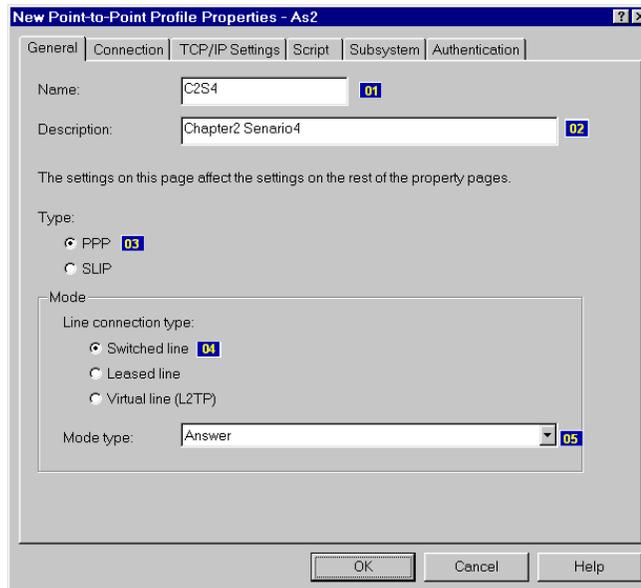
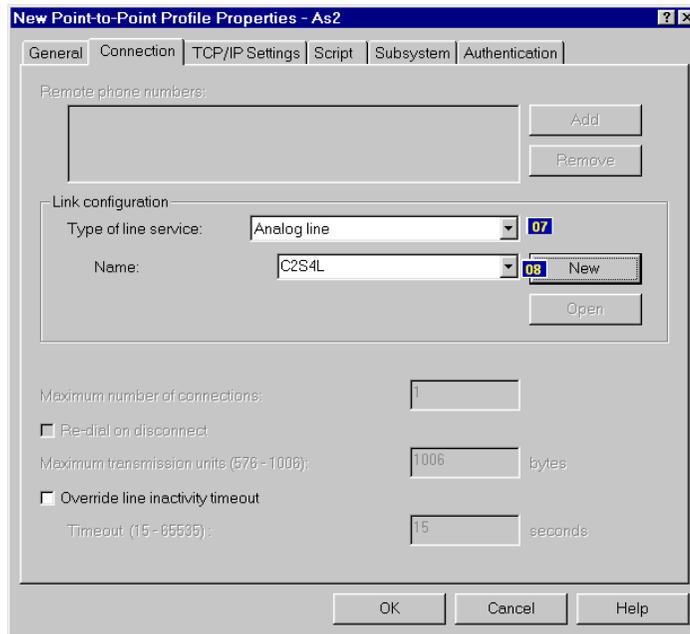
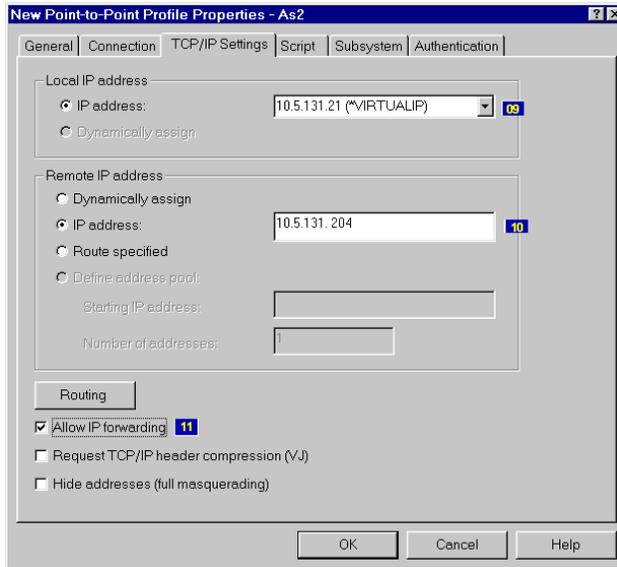

Figure 32. Creating a new point-to-point profile for scenario 4
Figure 33. Selecting the line type and name
Figure 38. TCP/IP Settings
Operations Navigator is the interface to configure PPP. Figure 32 on page 46 to Figure 38 on page 51 show the sample displays when creating the PPP connection profile as a switched Answer on AS2. Follow these steps:
1. Click **Operations Navigator->Network->Point to Point**. Right-click **Connection Profiles** for New Profile. The display shown in Figure 32 on page 46 appears.
2. Click the **Connection** tab (Figure 33).
7. Click **OK**. The same page that is shown in Figure 33 on page 47 appears. Click the **TCP/IP Settings** tab (Figure 38).
The numbers in the following tables correspond to the reverse-type numbers shown in Figure 32 on page 46 through Figure 38.